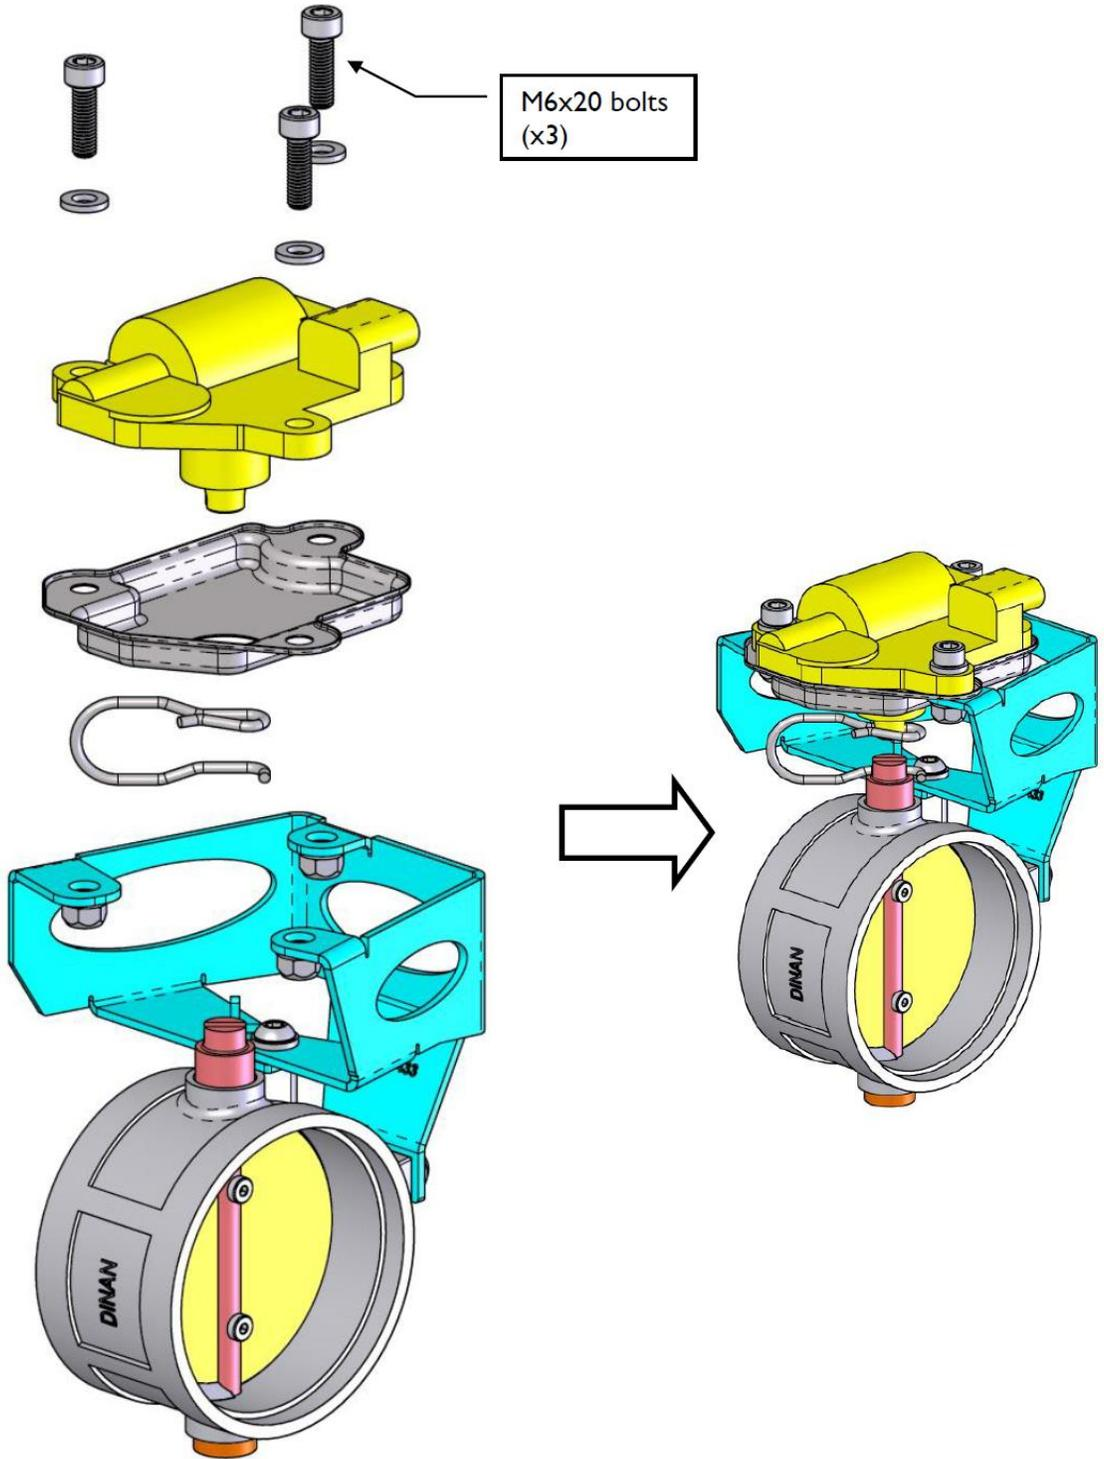

Figure 6
1. Using the exhaust hangers from the stock exhaust and the provided 12mm nuts, install the hangers to the hanger mounts of the Dinan Exhaust. See Figure 6.